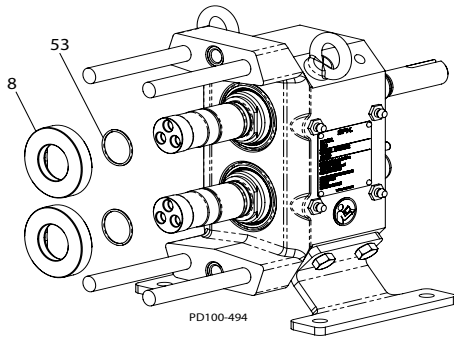

Figure 52 - Shaft Seat Installation
1. Install the seat o-rings (Figure 52, item 53) into the rear groove in the shaft.
2. Apply a compatible lubricant to the o-rings and install the seal seats (Figure 52, item 8). Align the flats in the seal seats with the flats on the shafts and seat them firmly against the shaft shoulder.